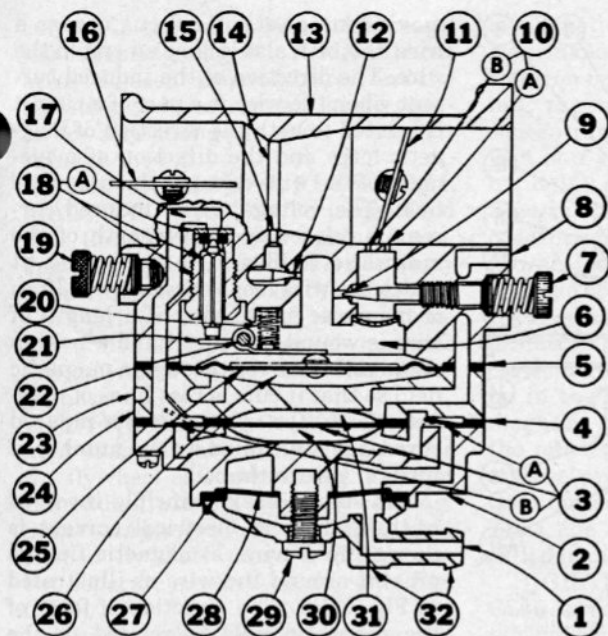

Fig. CS8—Cross-sectional schematic view of Tillotson series HL diaphragm carburetor. Some models of this type carburetor are equipped with an accelerator pump.
A cross-sectional schematic view of a typical Tillotson series HL diaphragm type carburetor with integral fuel pump is shown in Fig. CS8. The top of the pump diaphragm is vented to the engine crankcase through the channel (8). As the diaphragm pulsates, fuel is drawn into the carburetor through inlet (1), screen (28) and pump inlet valve (3A). The fuel is then pumped through the outlet valve (3B) into the supply channel (17). Engine suction through the main jet (15) and idle jets (10) is transmitted to the top of the carburetor diaphragm (25) and atmo-